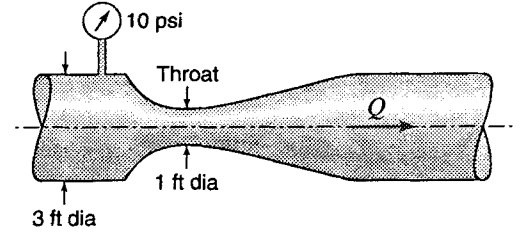

Figure S5.9
5.10.4 Water at 50°C flows horizontally at a rate of 2 m³/s through a constriction similar to that in Fig. S5.9 when the atmospheric pressure is 750 mmHg. The gage reading is 30 kPa and $d_1 = 0.5 \text{ m}$. Neglecting head loss, find the largest throat constriction diameter d_2 which will cause cavitation.